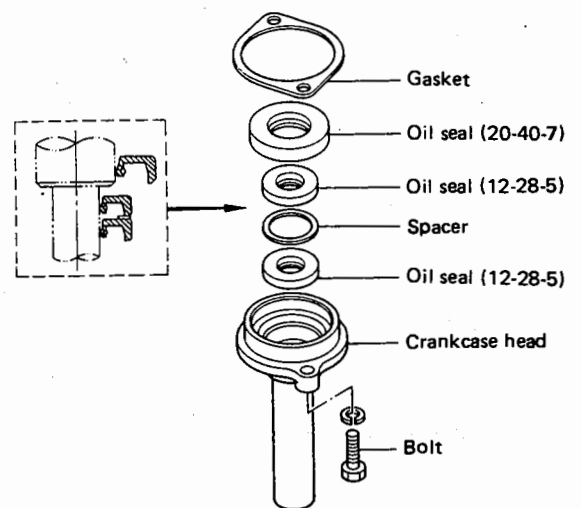

Fig.9.8
(9) Attaching the crankcase head
- Attach oil seals in the positions shown in Fig.9.8. Use two oil seals (12-28-5) in which spacer (22-27.5-1) must be provided.